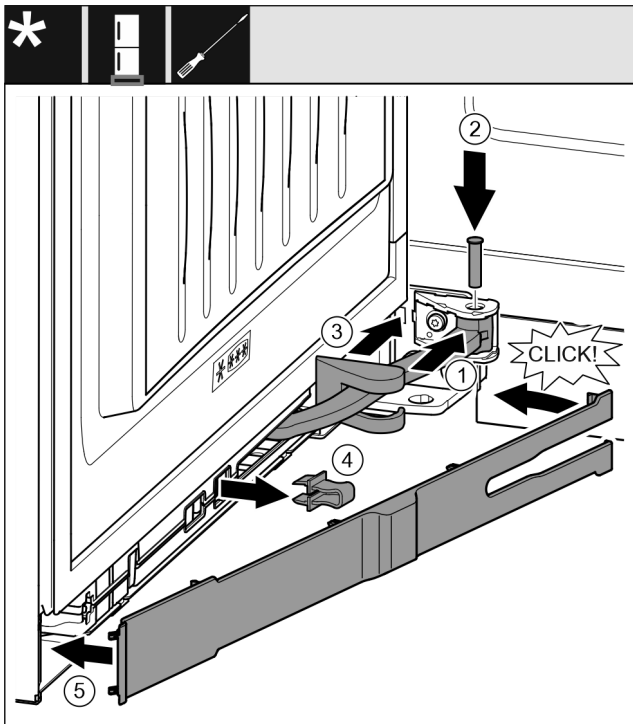

Fig. 46
- ▶ Turn the hinge in the mount. Fig. 46 (1)
- ▶ Insert the bolt with a T15 screwdriver in the mount and hinge. Make sure that the latching lug sits correctly in the groove. Fig. 46 (2)
- ▶ Push the bearing bracket cover along the hinge and fit it via the mount. Fig. 46 (3)
- ▶ Remove the locking device. Fig. 46 (4)
- ▶ Position the panel on the handle and swing it in. Fig. 46 (5)